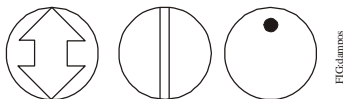

Figure 7: Damper Position Icons
1. Check that the damper blade is visible or its position is permanently marked on the end of the damper shaft, as illustrated in Figure 7.